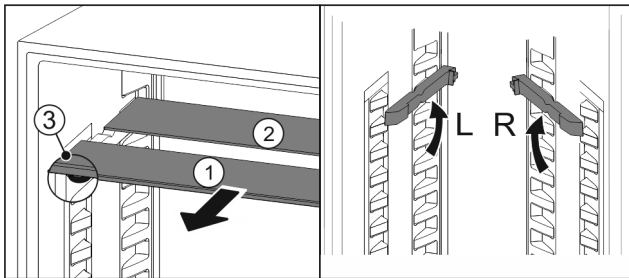

Fig. 94
- Pull the glass panels out Fig. 94 (1) from the front, one at a time.
- ▷ The glass panel Fig. 94 (1) and trim strip are at the front.
- ▷ The stops Fig. 94 (3) point down.